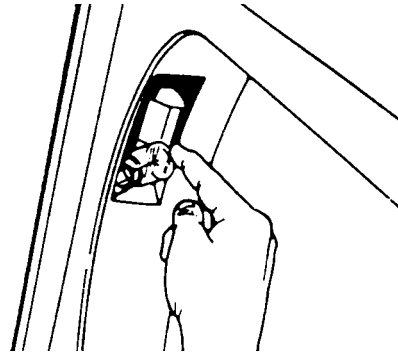

Fig. 18
- Tip the light socket forward and remove the bulb. (Fig. 18)